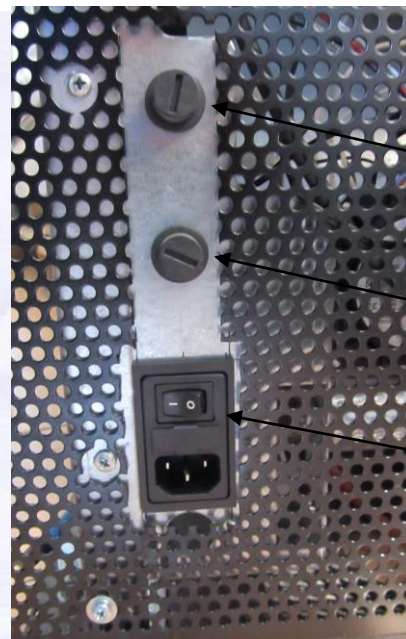

Figure 17
- Put the switch on the back side of the stove to position 1. Figure 17